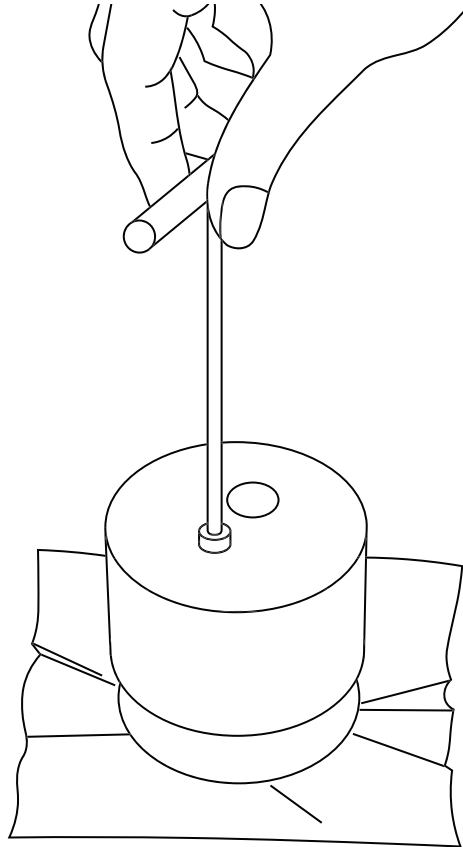

Figure 46 Drilling the holes
4. Use the hand auger to drill both tensiometer shaft holes in the soil sample (Figure 46).